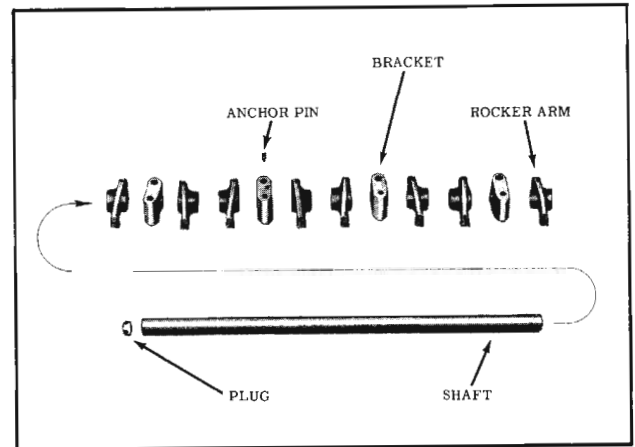

Fig. 8-5 Rocker Arm Assembly
- To disassemble rocker arm, remove brackets and rocker arms from shaft. (Fig. 8-5)
- Lubricate all frictional surfaces of the rocker arms, brackets and shaft, then assemble rocker arm shaft assembly as shown in Fig. 8-5.